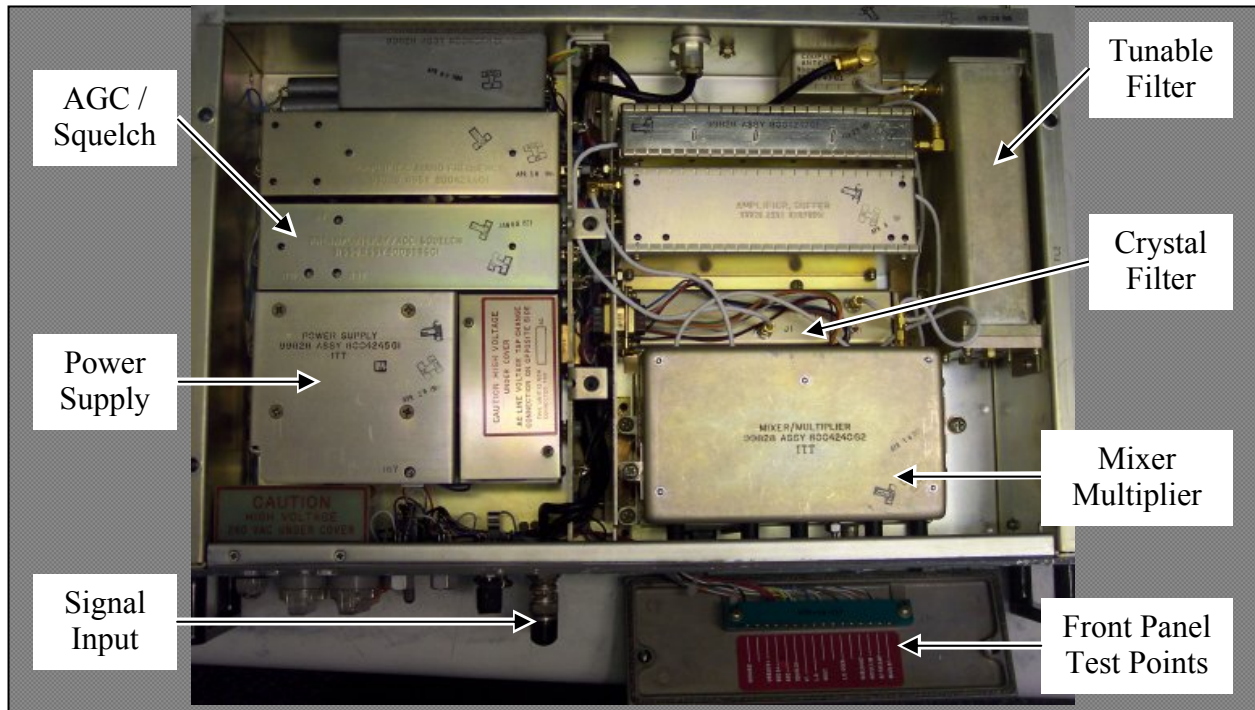

Figure 1. AN/GRR Module Locations – Top
- d. Remove the receiver top cover and open the front panel. Perform a visual inspection of the internal modules. Refer to figures 1 through 4 to become familiar with the location of the following modules, connection points, and test points:
- Signal Type           ▶ Amplitude modulated (AM)
e. On the Crystal Filter, remove the J1 connection located in the center of the module. Refer to figure 1 (paragraph 1.3) for the Crystal Filter location.